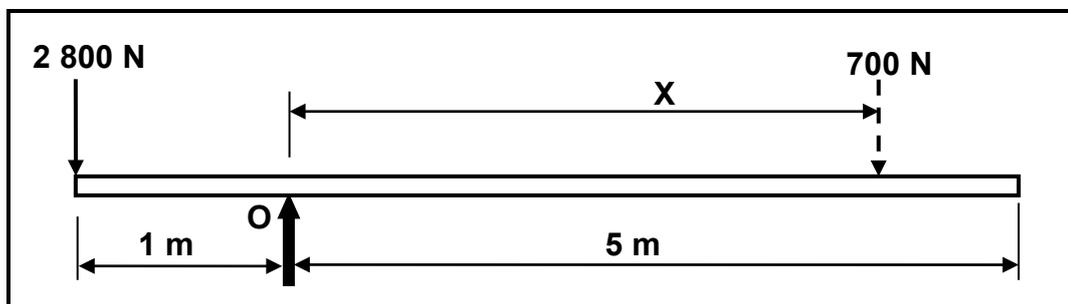

FIGURE 8.2
8.2 The diagram in FIGURE 8.2 below shows a beam with two vertical point loads of 2 800 N and 700 N acting on it. The beam is supported at point O. Calculate distance X from O to place the 700 N load to ensure that the beam is in equilibrium.